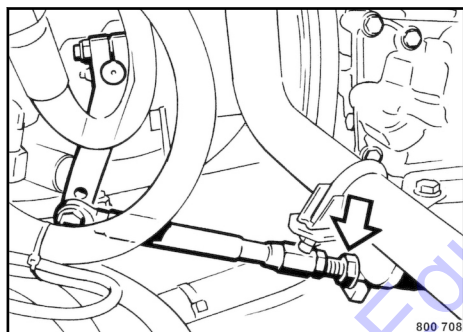

Fig. 112
4. Adjust the travel control cable ↪ Fig. 112 so that both drums stop.